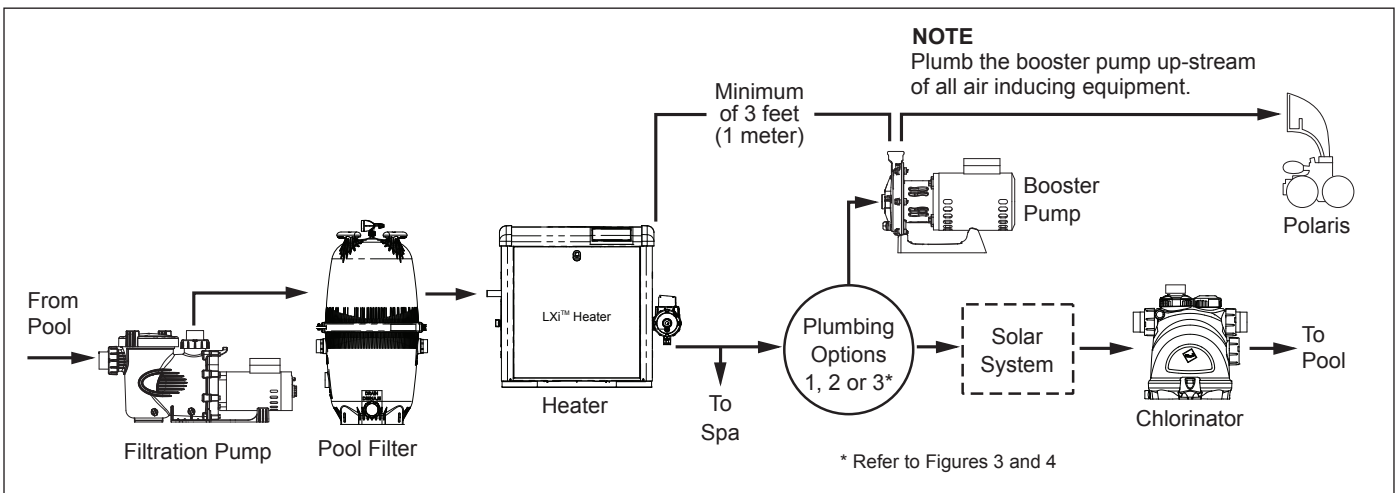

Figure 2. Typical Equipment Layout
To ensure proper function of the pump and the cleaner, refer to Figure 2 and adhere to the following guidelines for specific equipment.
- If a heater is installed on the system, tap the inlet for the booster pump into the return line downstream and at least three (3) feet (1 meter) from the heater discharge. See Figure 2. **Do not tap the booster pump inlet into the three-foot (1 meter) section of heat sink pipe that comes directly out of the heater.**